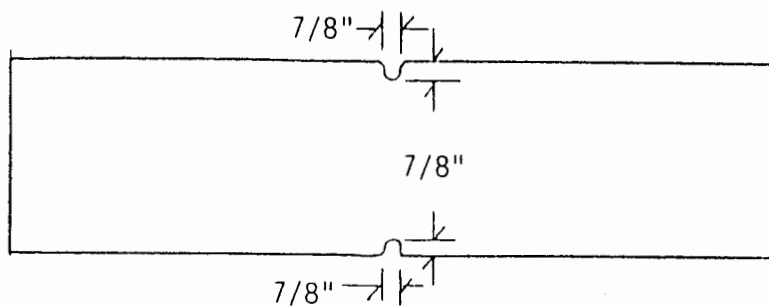

FIGURE 06-07
7. Cut and file a  $7/8$ " diameter by  $7/8$ " deep notch in the center of the dust cover (See Figure 06-07) and install onto the front side of panel.